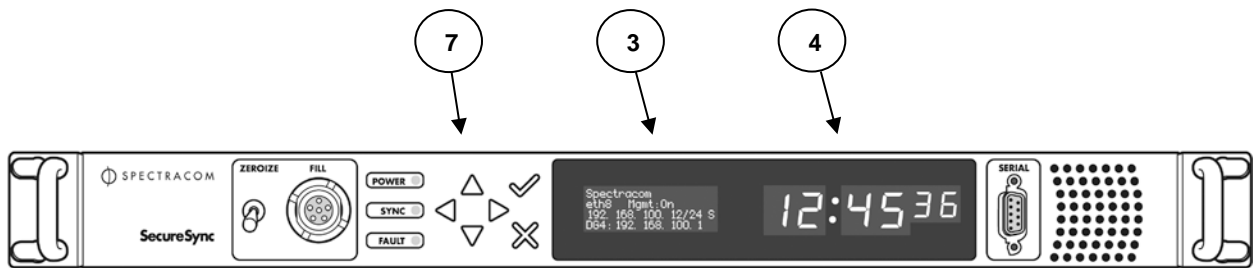
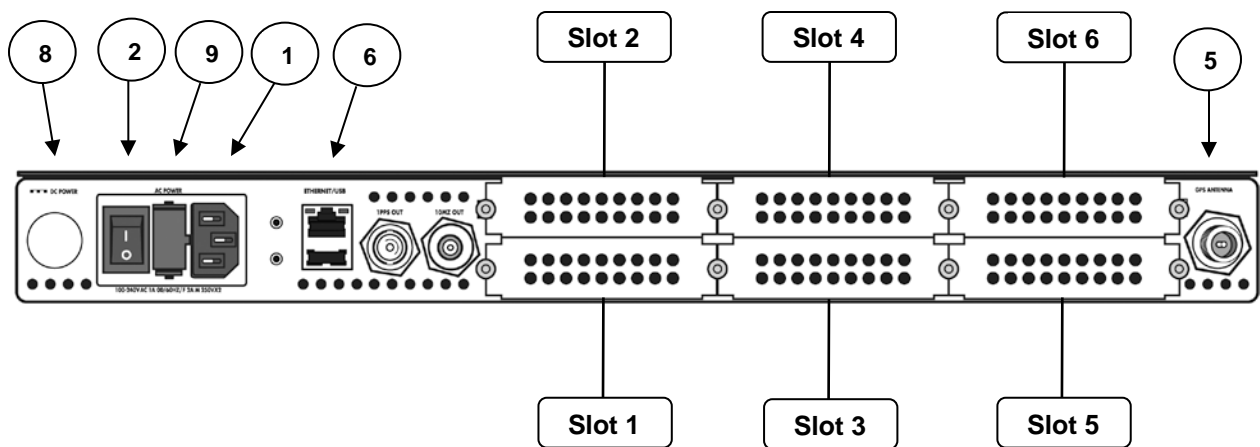

Figure 1-1: SecureSync Front Panel
Figure 1-2: SecureSync Rear Panel
- Connect the AC power cord to the AC input **[Figure 1-2 (1)]** on the rear panel and AC power source outlet. If rear panel DC port **[Figure 1-2 (8)]** is available, connect DC power if desired.
4. Turn rear panel power switch **[Figure 1-2 (2)]** on and observe the Power LED illuminates and the LCD display **[Figure 1-1 (3)]** illuminates and displays the current settings after approximately 2 minutes.
6. If your network does not support DHCP, use the front panel **[Figure 1-1 (7)]** to input the static IP address, subnet mask, and gateway values.
7. Determine whether configuration will be done from a computer attached to the network, or from a computer connected directly to the SecureSync unit. For management from a computer attached to the network, connect a standard Ethernet cable to the Ethernet port **[Figure 1-2 (6)]** on the
SecureSync rear panel. For management from a standalone computer, connect a crossover cable between the computer and the Ethernet port **[Figure 1-2 (6)]** on the SecureSync rear panel. Verify the green link light on the Ethernet port is illuminated.
- 9.** Connect the GPS cable to the rear panel antenna input jack **[Figure 1-2 (5)]**.
Two field replaceable fuses rated at slow-blow, 2 amps, 250 V (T 2A L 250V) **[Figure 1-2 (9)]** are available for AC power. In the event the unit does not power up with AC power, these fuses should be tested. Remove AC power by disconnecting the AC power cord before testing fuses.